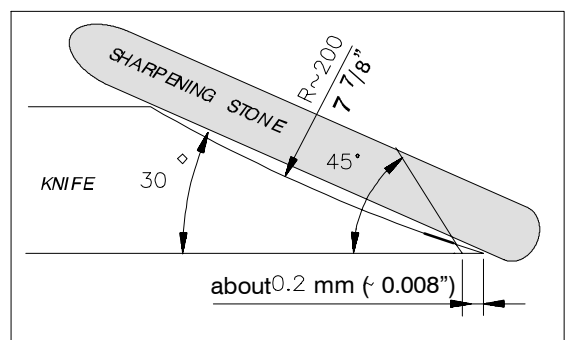

Fig.22.
- 7.Sharpen the knives at an angle of 30 degrees. Refer to fig. 22.